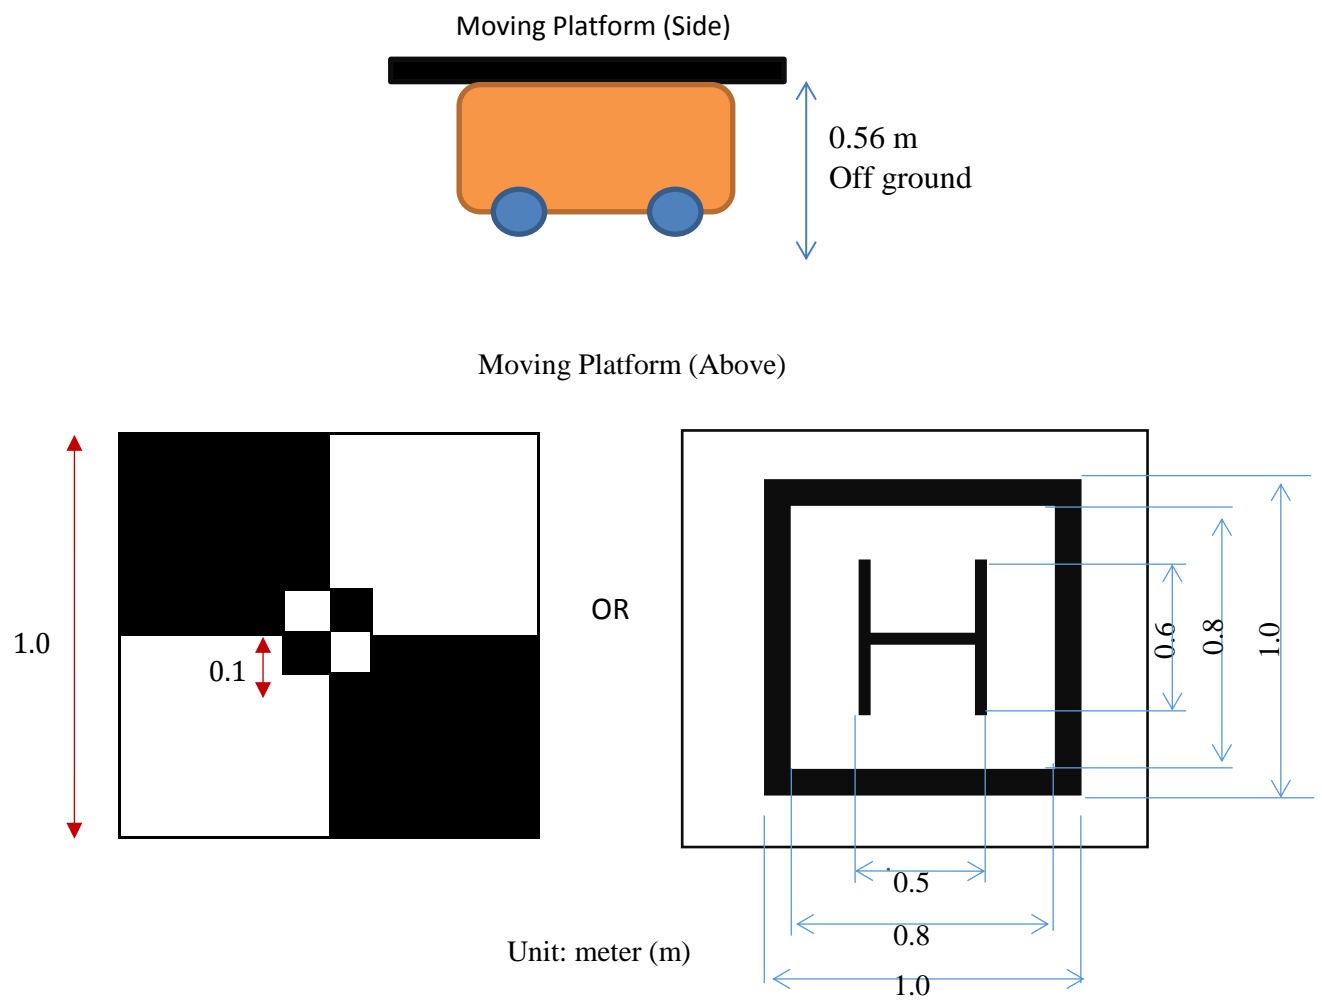

Figure 6-11: Moving platform marker¹⁵
Each MAV is to land at the Operating Zone (OZ) to score points in this mission element. **Teams can land the UAV on the ground or on the moving platform, with either 1 of the 2 markers shown in Figure 6-11. Teams can choose either one of the official markers for this mission element. Use of any other markers will be considered as external marker and will have a -2 penalty in the autonomy level.** ¹⁴